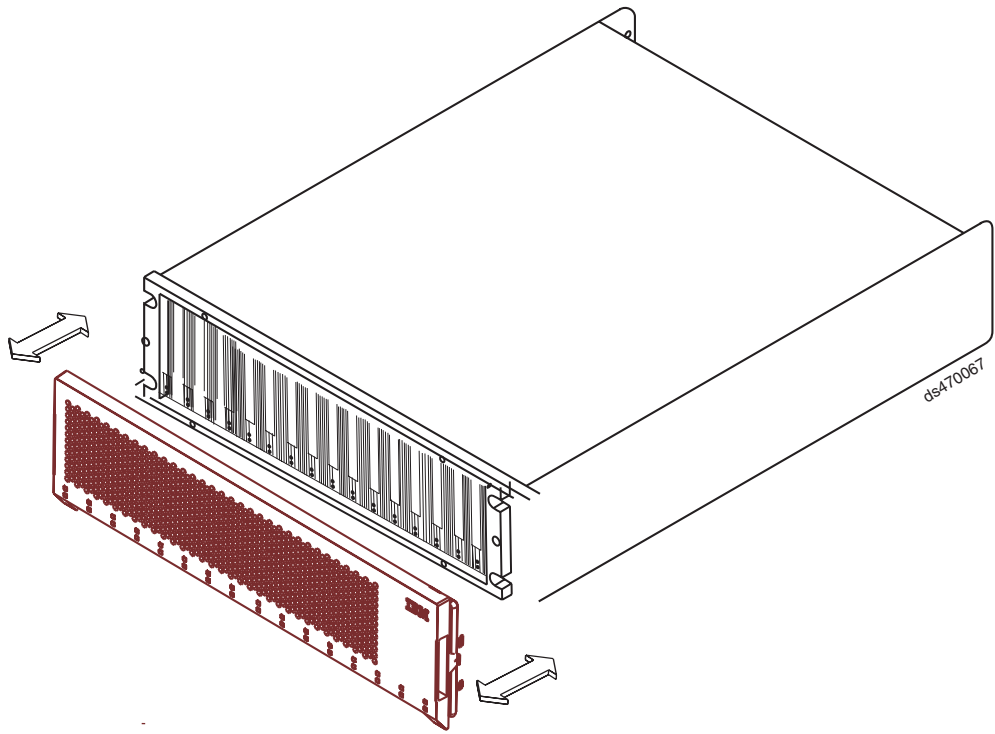

Figure 31. Installing a Telco bezel
- Grasp the sides of the bezel and snap it onto the DS4700 Express chassis, as shown in Figure 31 on page 54. The bezel is self-aligned in the recessed opening in the front of the DS4700 Express chassis.